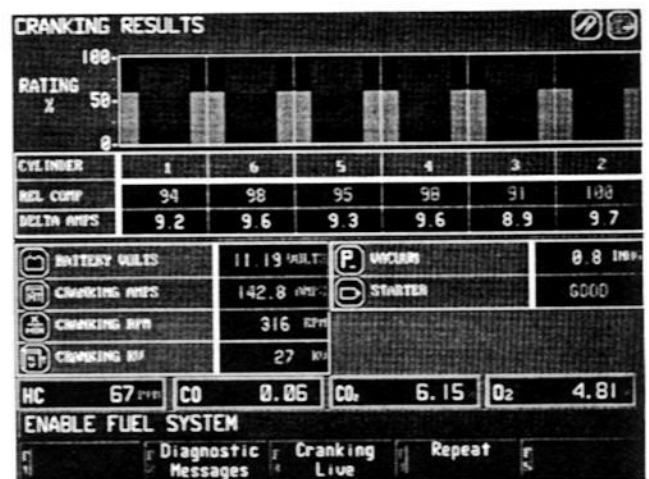

Figure 3-8
1. If the engine is running when you press [F2], the analyzer will kill the engine. Follow the screen prompt (see Figure 3-8) and crank the engine until it starts.